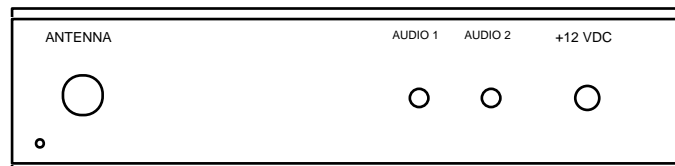

Figure 7. Rear panel
3. □ Orient the rear panel on a flat surface with the large hole for the antenna connector to the left (Figure 7). The small screw hole should be below and to the left of the antenna connector hole. Peel the rear decal from its backing and apply to the rear panel.